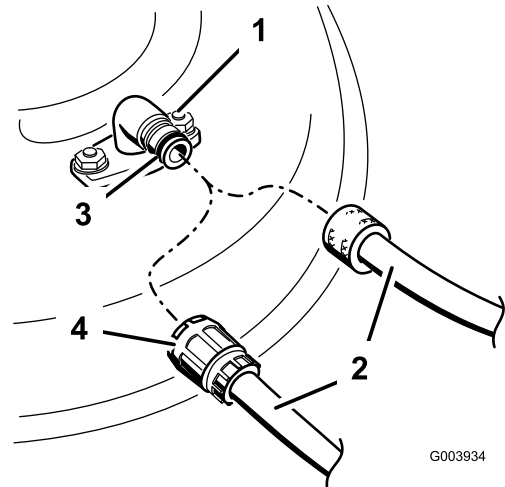

Figure 26
4. Attach a hose to the washout fitting, and turn the water on high (Figure 26).